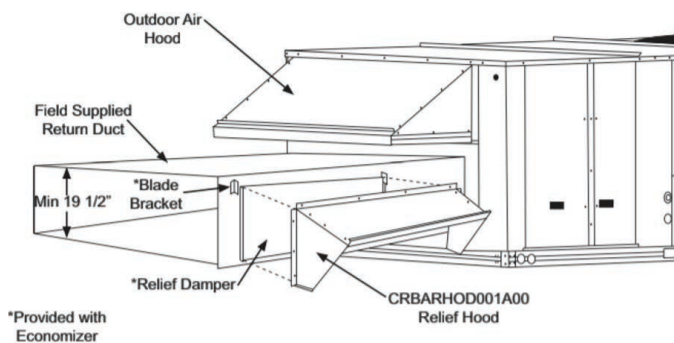

**Fig. 30 — Relief Damper**
1. Install the field provided horizontal ductwork onto the unit. Duct height must be at least 19-1/2 in. high, however the duct can be no taller than the top of the relief opening in the bottom panel, or airflow into the outside air hood will be restricted. See Fig. 30.
2. Cut a 16 in. x 36 in. opening in the return duct for the relief damper (see Fig. 30).